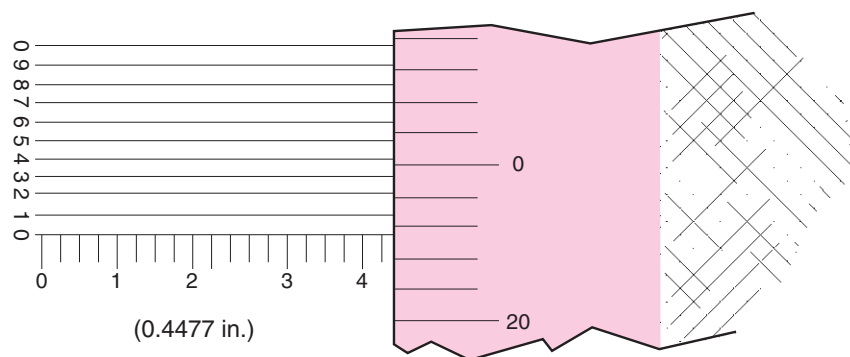

Figure 6-41 The vernier scale will be on the side of the sleeve.
1. 0.4477 in.? See Fig. 6-41 for the first answer.